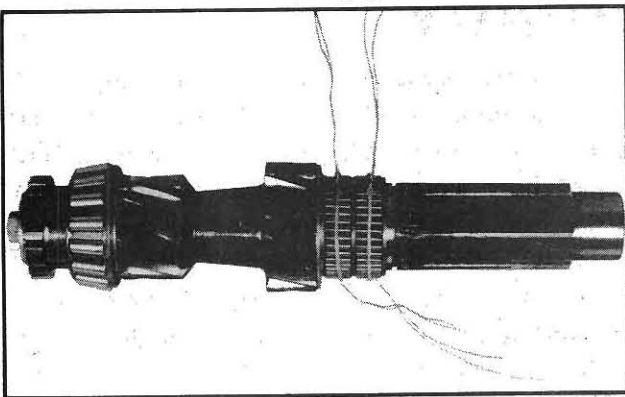

Fig. 241
- c. Add second spacer, TO-7252, and second row of needle bearings, holding with an elastic band with two wires attached, see Fig.241.